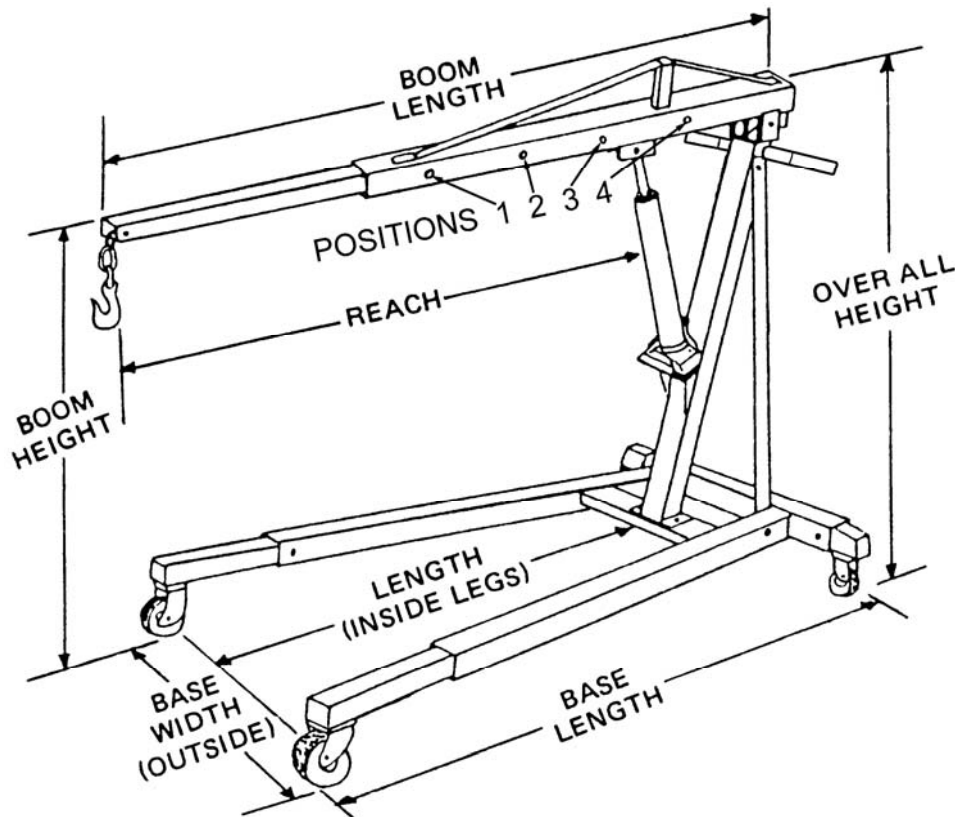

Figure 1
2. Do not exceed the rated capacity of the crane (position 1, 1/2 ton; position 2, 1 ton; position 3, 1-1/2 ton; position 4, 2 ton. See Figure 1.